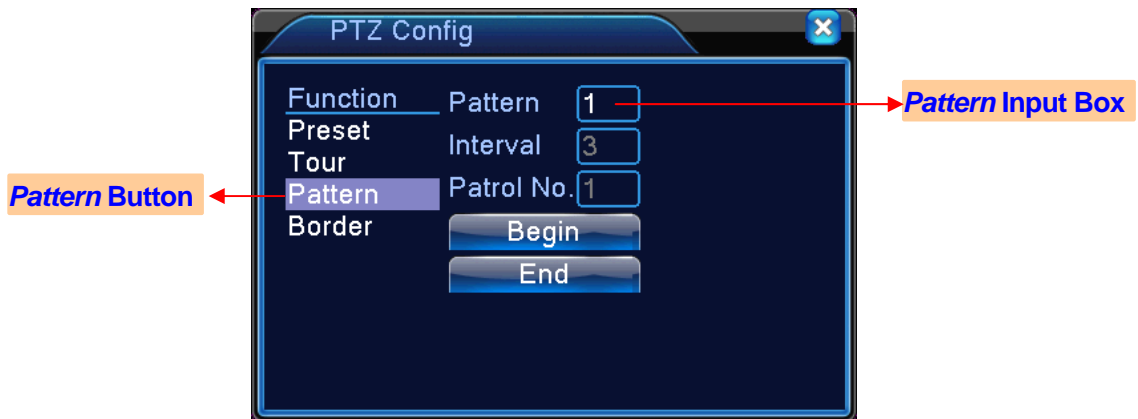

Figure 3.11 Pattern Set
**Step 1:** Click **[Set]** key in Figure 3.7 and enter Figure 3.11.
**Step 3:** Click **[Begin]** key, enter the interface as shown in Figure 3.7 to perform the operations of zoom, focus, iris and directions, and click **[Set]** key to return to Figure 3.11.